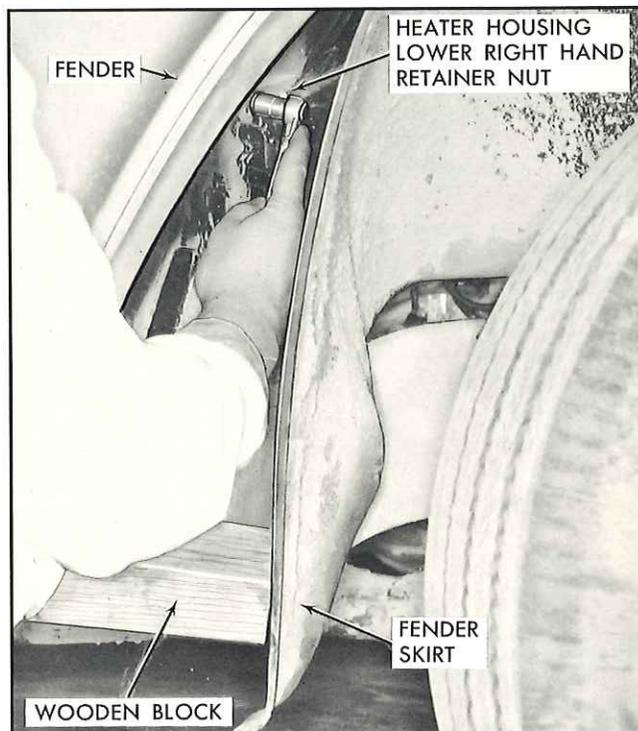

Fig. 3—Access To Heater Housing Lower Right Hand Retaining Nut
12. Disconnect three right lower rear inner fender panel retaining bolts (to gain access to heater housing lower right hand retaining nut. (Fig. 3) Remove retaining nut.
14. Remove heater housing control panel with cable assembly from vehicle (includes disconnect necessary vacuum lines, defroster bowden cable and electrical leads). Attach one (1) nut and bolt to retain housing position for installation.
16. Remove heater core from heater housing cover by removing four (4) retaining screws and two "U" clamps.
Refer to 1965 Chassis "Service" Manual, Page 15-4, Core-Replacement and also the above Fig. 3 for access to heater housing retaining nut.